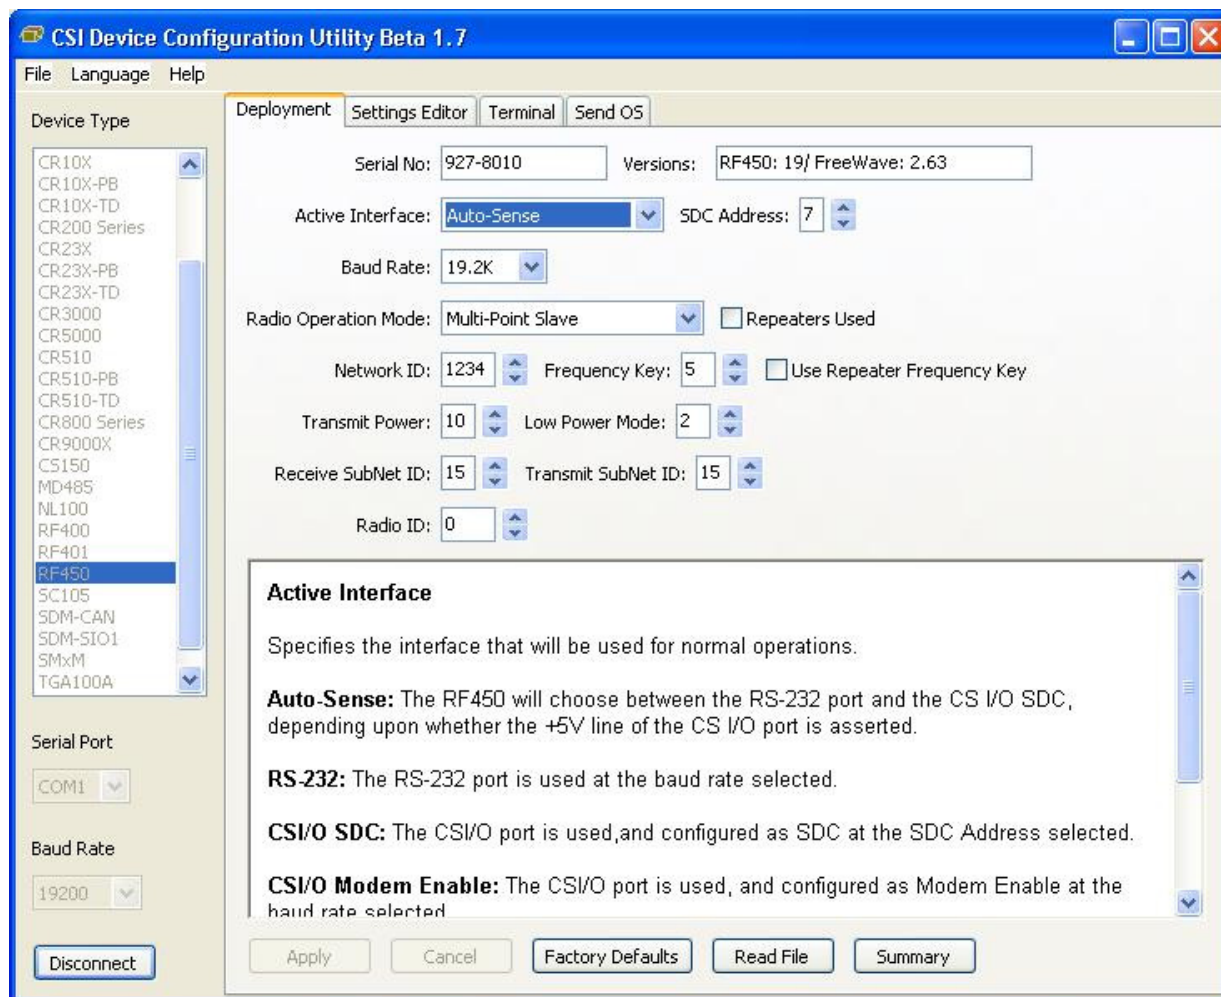

FIGURE 3.4-2. DevConfig Screen Showing the RF450 Settings
6. Click Connect then press the green "setup" button located on the side of the RF450 between the RS-232 and power ports. The radio CD and CTS LEDs should turn green. After several seconds, a screen similar to Figure 3.4-2 will appear: